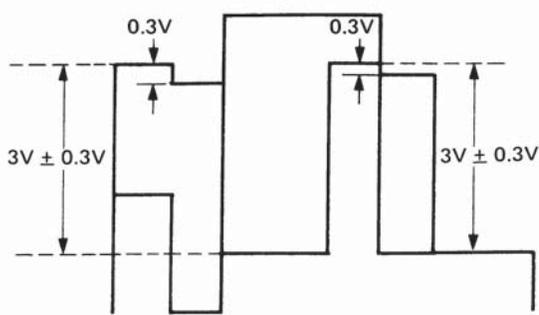

Figure 18 Waveform at TP46R
6. Confirm the amplitude of R-Y output is shown in figure 18.